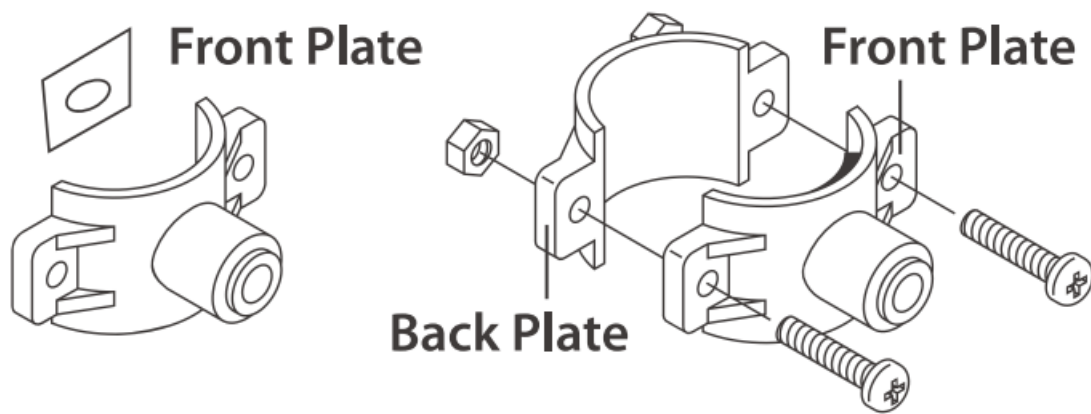

Figure 6
1. Paste the foam seal onto the front plate of drain saddle. Make sure the hole of foam seal is aligned with the hole of front panel (**Figure 6**);